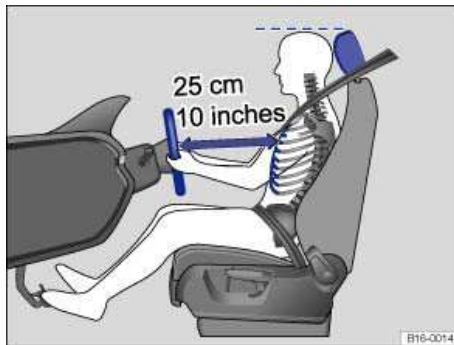
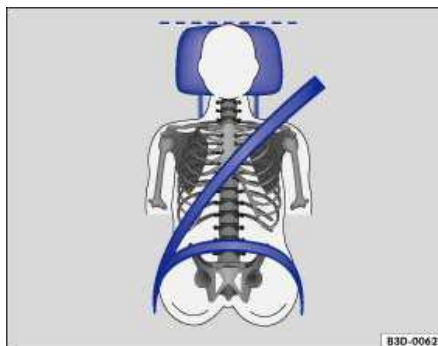

Fig. 43 The driver should never sit closer than 10 inches (25 cm) of the steering wheel.
Fig. 44 Proper safety belt positioning and head restraint adjustment.
- ☐ Adjust head restraints so that the upper edge of the head restraint is at least at eye level or higher. Position the back of your head as close as possible to the head restraint ⇒ fig. 43 and ⇒ fig. 44.
- ☐ Adjust the steering wheel so that there are at least 10 inches (25 cm) between the steering wheel and your breast bone ⇒ fig. 43. When adjusting the proper distance to the steering wheel, grasp the top of the steering wheel with your elbows slightly bent.